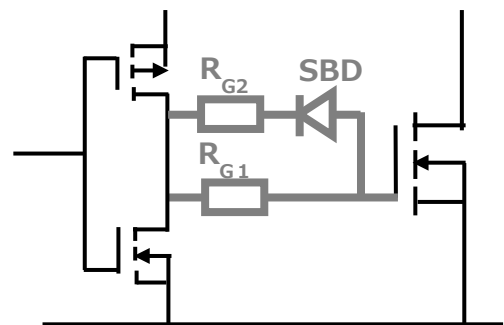

Figure 3.4 Adding a shunt circuit
- Use a shunt circuit at the gate. (Figure 3.4)